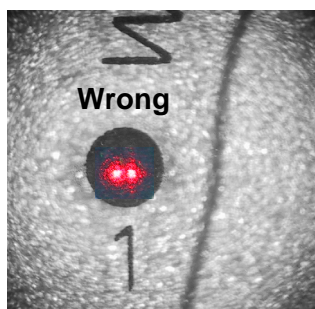
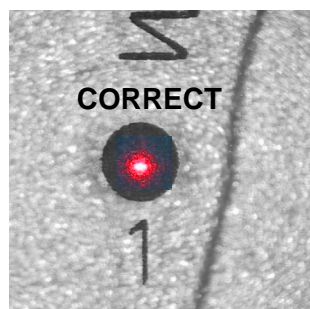

Figure 136: Wrong Focus
Figure 137: Correct Focus
5. Focus the ablation target for the Scanner Test. This means, adjust the height of the patient bed to the level where both points of the red distance diodes join (red points on top of each other - see figure 136 "Wrong Focus" and figure 137 "Correct Focus" on page 172).